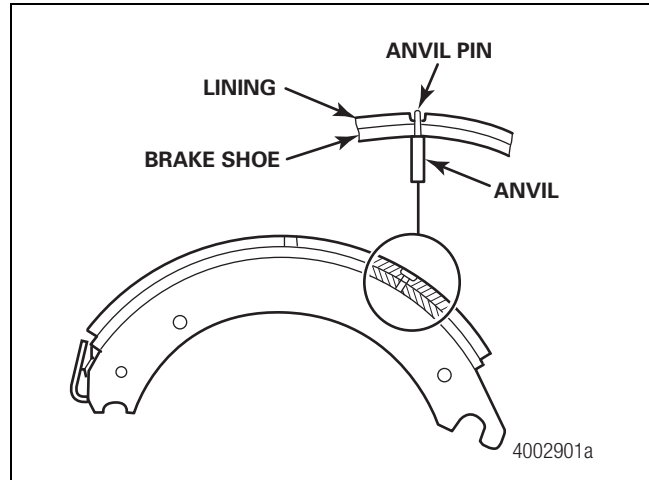

Figure 8.17
6. Before you cycle the rivet machine to fasten the linings to the brake shoe, check that the anvil pin extends through the table and lining assembly to ensure correct driver and anvil pin alignment. Figure 8.17.